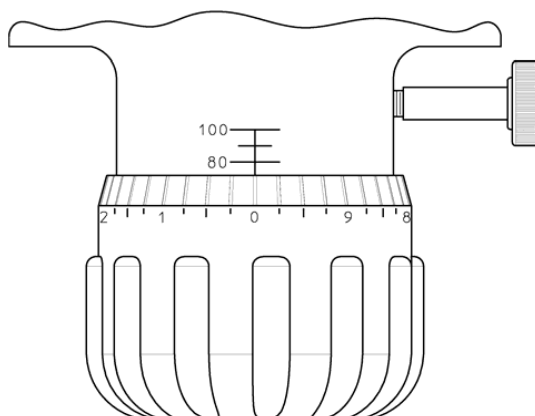

Figure 4, stroke adjustment knob and scale
- b. The hand wheel indicates stroke length in 0.25% increments.For example, to set the pump to 75% stroke length, (starting from the factory default setting of 0%) turn the hand wheel clockwise until the 60% indicator on the stroke barrel is aligned with the edge of the knob at the "0" position on the knob scale. Continue the clockwise rotation until the hand wheel indicator passes zero again (this is 70%) and comes to 5, this is 75%. Refer to *Figure 4*.